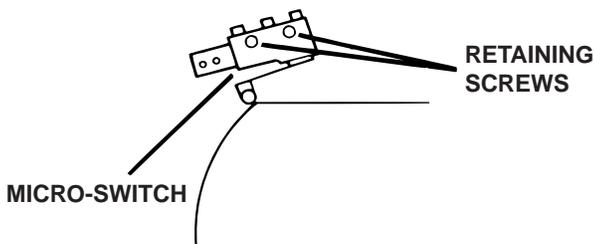

Figure 5-20. Micro-Switch Adjustment
2. For all switches except the Leg Section switches, carefully loosen the switch retaining screws, and adjust the switches as needed. See figure 5-20.